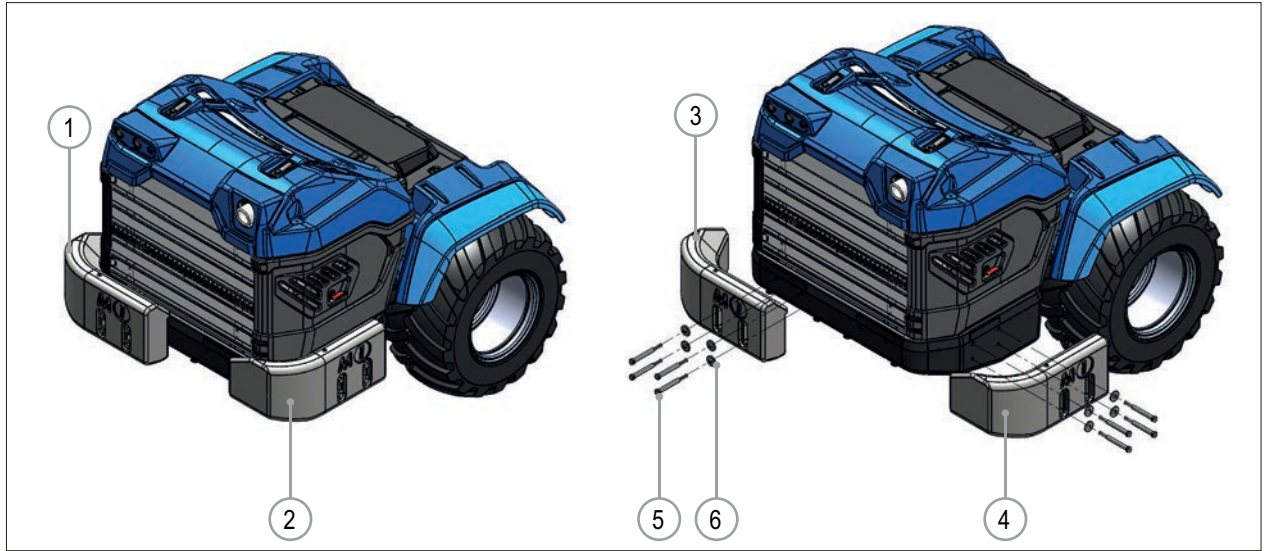

FIG. 66
The backweights can be installed at rear (FIG. 66 - Ref. 1) or at the side (FIG. 66 - Ref. 2) of the bumper machine.
- 2) Using a lifting device, position one of the backweights (FIG. 66 - Ref. 3) at the rear bumper of the machine.
- 3) Secure the backweight to the bumper using the bolts and washers (FIG. 66 - Ref. 5 and Ref. 6).
- 4) Repeat the procedure for the second half of the backweights (FIG. 66 - Ref. 4).